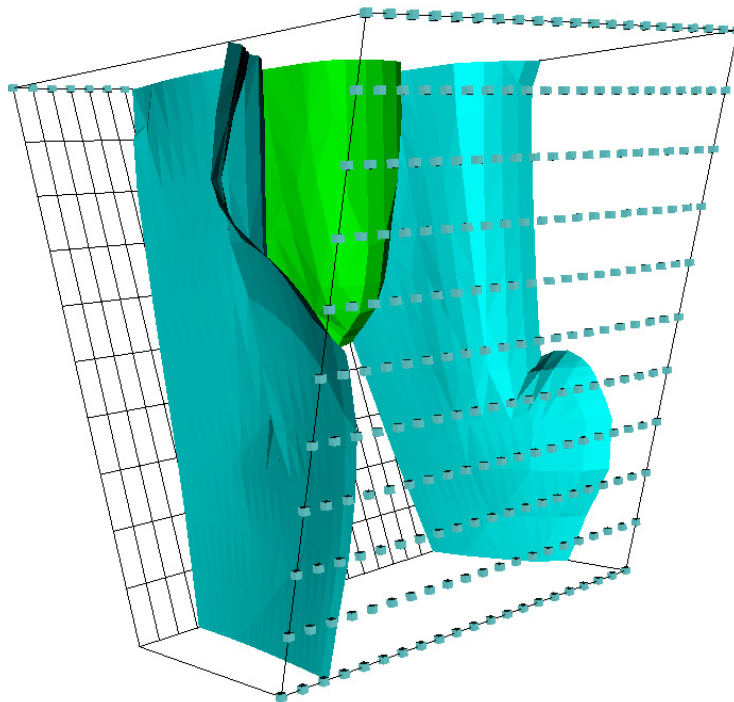

Figure 33. Isosurfaces and boundary conditions displayed by Model Viewer.
13. Use Model Viewer to view the results of the model as in the previous example. Model Viewer was used to create figure 33, which shows isosurfaces of concentration along with the locations of specified pressure boundaries.